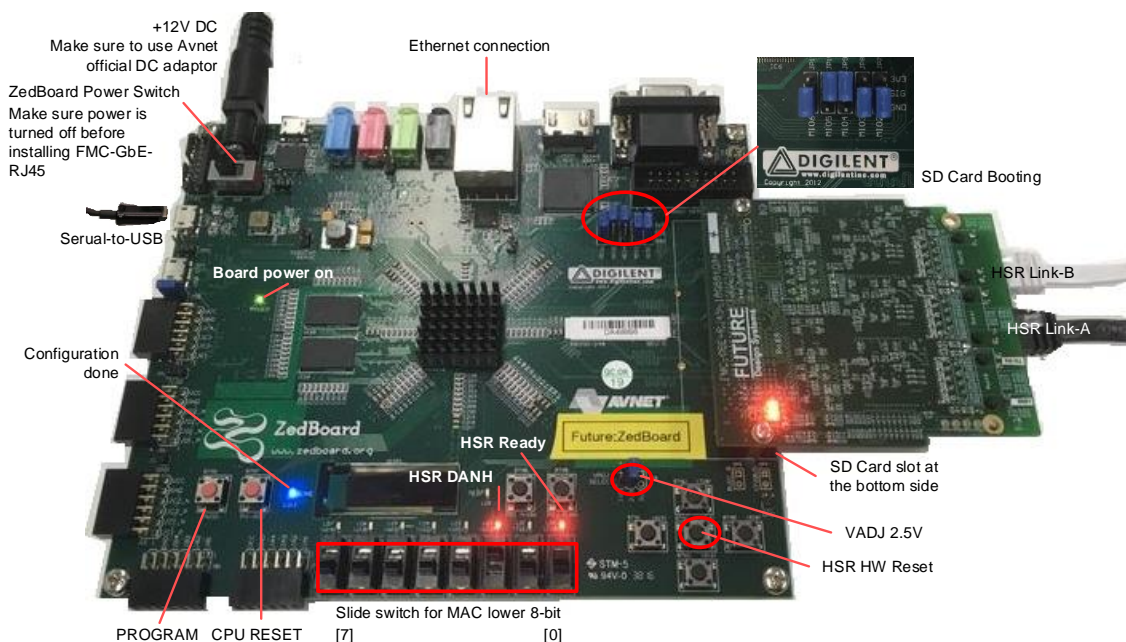
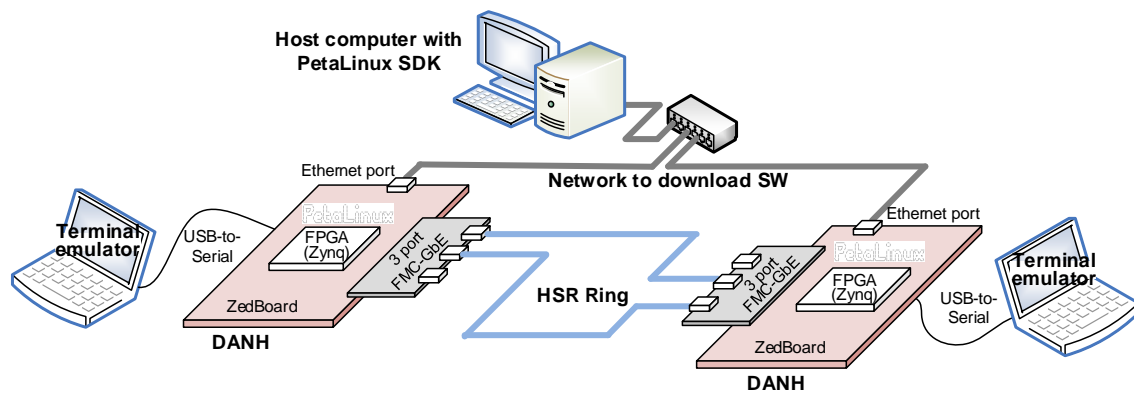

Figure 5: ZedBoard and FMC-GbE-RJ45
Figure 6: Two DANH conceptual
² Board ID[7:0] is read from board sliding switch through GPIO. Refer to Figure 5.
- ✧ Make sure Booting mode selection switches are properly set as shown in Figure 5.
- ✧ Two LEDs should be on as shown in Figure 5; one for HSR ready and the other for DANH indicator.
As shown in Figure 5, the system requires two MAC addresses.
When all has been done as shown in Figure 5, a HSR system shown in Figure 6 can be set up using two DANH. In addition to this, USB-to-Serial connections are required to interact with ARM processor. Make sure that FMC-GbE-RJ45 port 1 and port 2 are connected (do not use port 0).